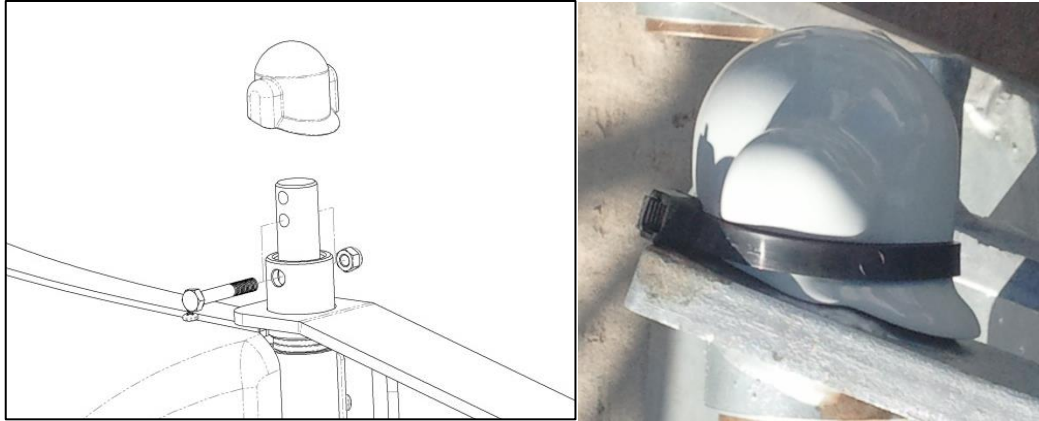

Figure 13: Tail Pivot Pin Cap
8. Place the tail pivot pin cap on the pivot pin and use a zip tie to secure it in place, as shown in **Figure 13**.